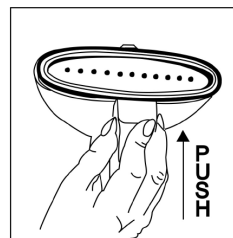

fig. 4
2. Push the pants press gently until it is firmly in position. See fig 4.